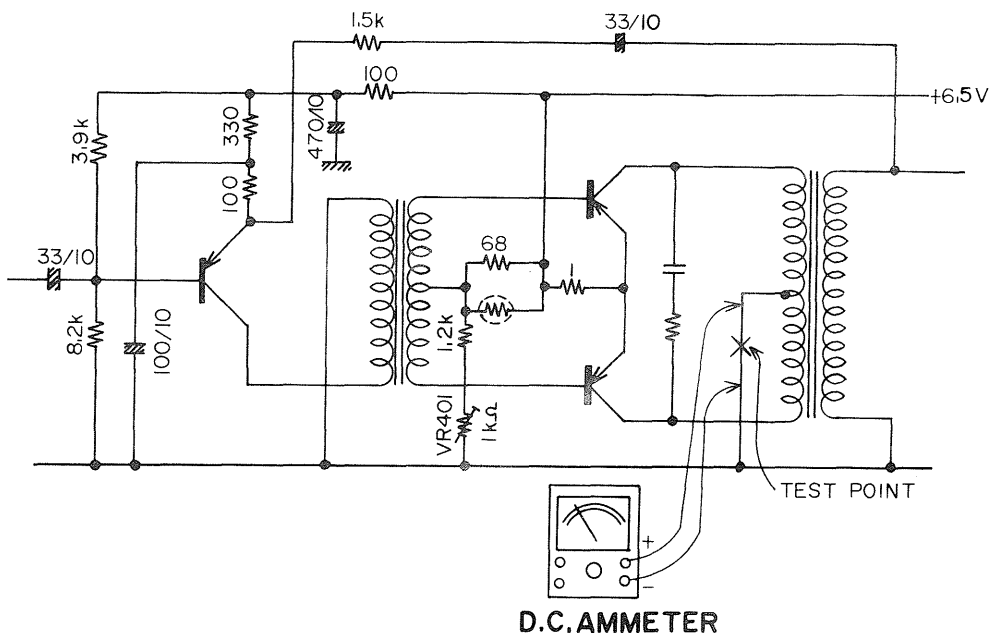

Fig. 4
- (1) When A.G.C. Switch is set to Automatic Recording position, the adjustment should be done after 30 seconds while C226 (470 μF) completes the charging.
- (2) When Automatic Recording switch is "ON", the power source is recommended to be "OFF".
4. MAIN AMPLIFIER ADJUSTMENT (Fig. 4)